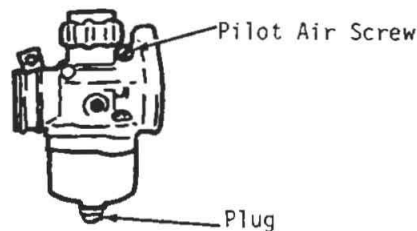

Fig. SZ1-2—Initial setting of pilot air screw on models so equipped is two turns out from a lightly seated position.
**CARBURETOR.** A Mikuni sliding valve float type carburetor is used. Refer to Fig. SZ1-1 for exploded view. Idle speed should be adjusted after motor has reached normal operating temperature. Move speed control to slow speed stop and adjust idle speed screw (14) to obtain idle speed of 800-900 rpm. Note that on 1987 and later models, carburetor is equipped with a pilot air screw (Fig. SZ1-2) for low speed mixture adjustment. Carburetor with pilot air screw can be identified by the presence of a float bowl drain plug. Initial setting of pilot air screw is two turns out from a lightly seated position. Final adjustment should be made with engine at operating temperature and running in forward gear. Adjust pilot air screw so engine idles smoothly and accelerates without hesitation.
Fig. SZ1-1—Exploded view of carburetor used on models prior to 1987. On 1987 and later models, carburetor is equipped with a pilot air screw (Fig. SZ1-2) for low speed mixture adjustment.